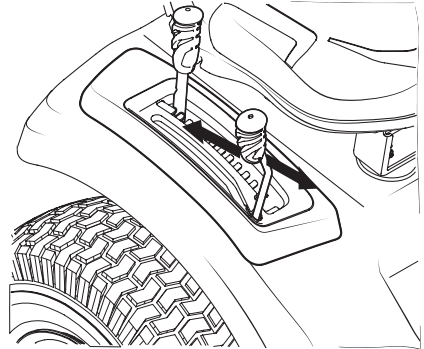

Figure 29
2. Push the PTO (Blade Engage) Lever forward into the engaged (ON) position. See Figure 29.